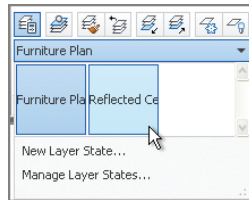

FIGURE 6.18
8. Open the Layer State drop-down menu, and select Reflected Ceiling Plan (see Figure 6.18). All the layer states associated with the Reflected Ceiling Plan are immediately toggled. Switch back to the Furniture Plan state, and you'll see the value in saving layer states (it saves lots of time).